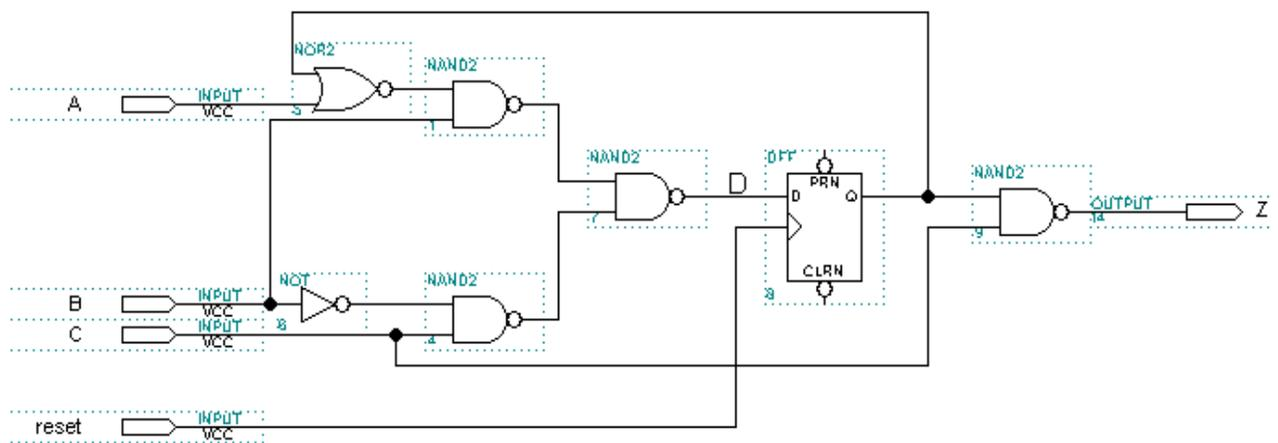

Figure 2
6. The flip-flop in the circuit in Figure 2 has a propagation delay from clock edge to Q of 2 ns. Its setup time is 1 ns and hold time is .5ns.